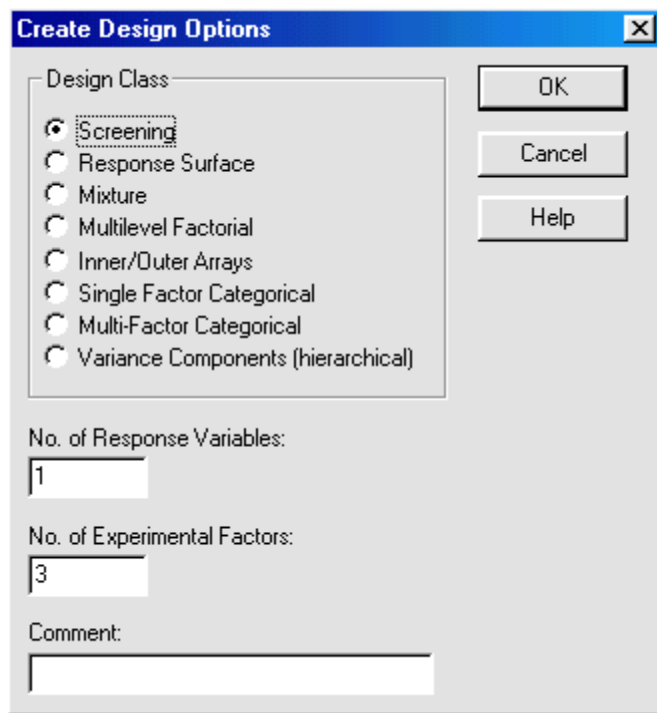

Figure 3-1. Create Design Options Dialog Box (Screening Designs)
1. Choose **SPECIAL... EXPERIMENTAL DESIGN... CREATE DESIGN...** from the Menu bar to display the Create Design Options dialog box shown in Figure 3-1.